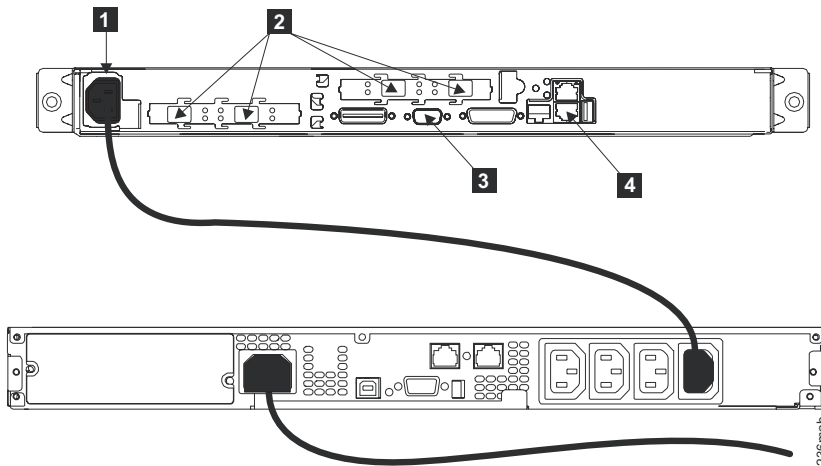

Figure 1. Power cable and signal sockets for the SAN Volume Controller and UPS 5115
2. Ensure that the power cable is plugged into the load segment receptacle of the UPS 5115. Also ensure that the other end of the power cable is connected from the UPS 5115 to the distribution point in the rack. Figure 1 shows the connectors for the SAN Volume Controller and the UPS 5115. The power cable connector is shown as  in the figure.